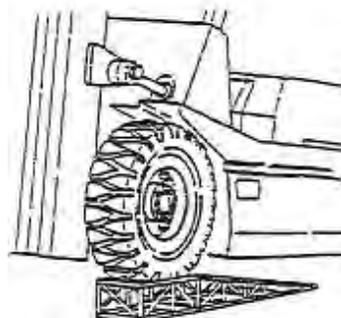

Figure 2-74
7.5.4 Replace mast roller see figure 2-74